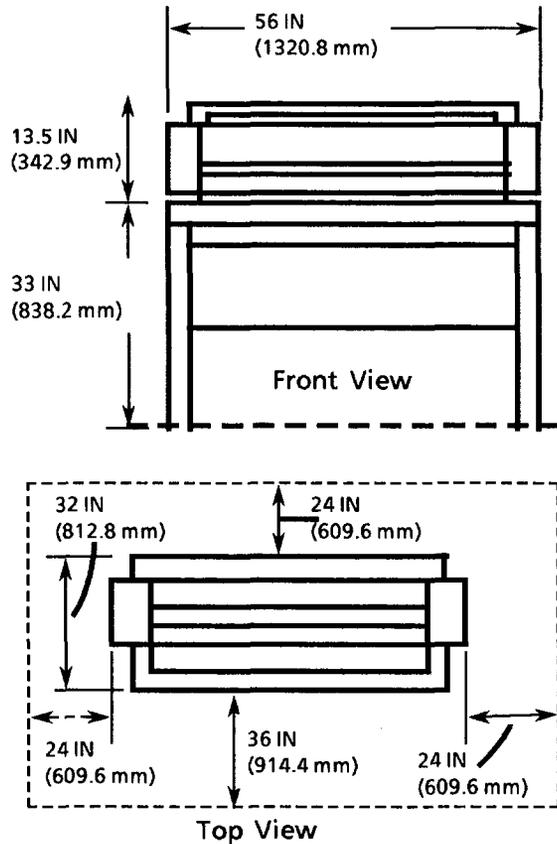

Figure 2. Minimum Space Requirements
2. (FIGURE 2): THIS SHOWS THE MINIMUM ALLOWABLE SPACE REQUIREMENTS.